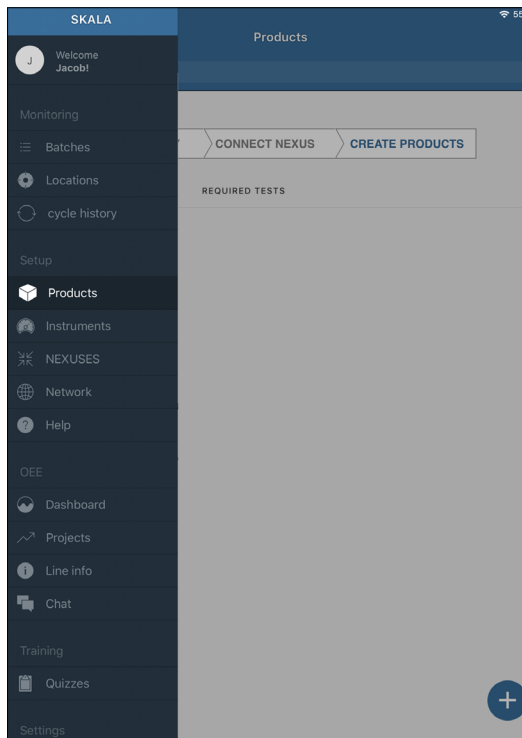

Figure 21 Plus symbol in blue circle
2. Select the plus symbol on the Products screen to add a product (Figure 21).